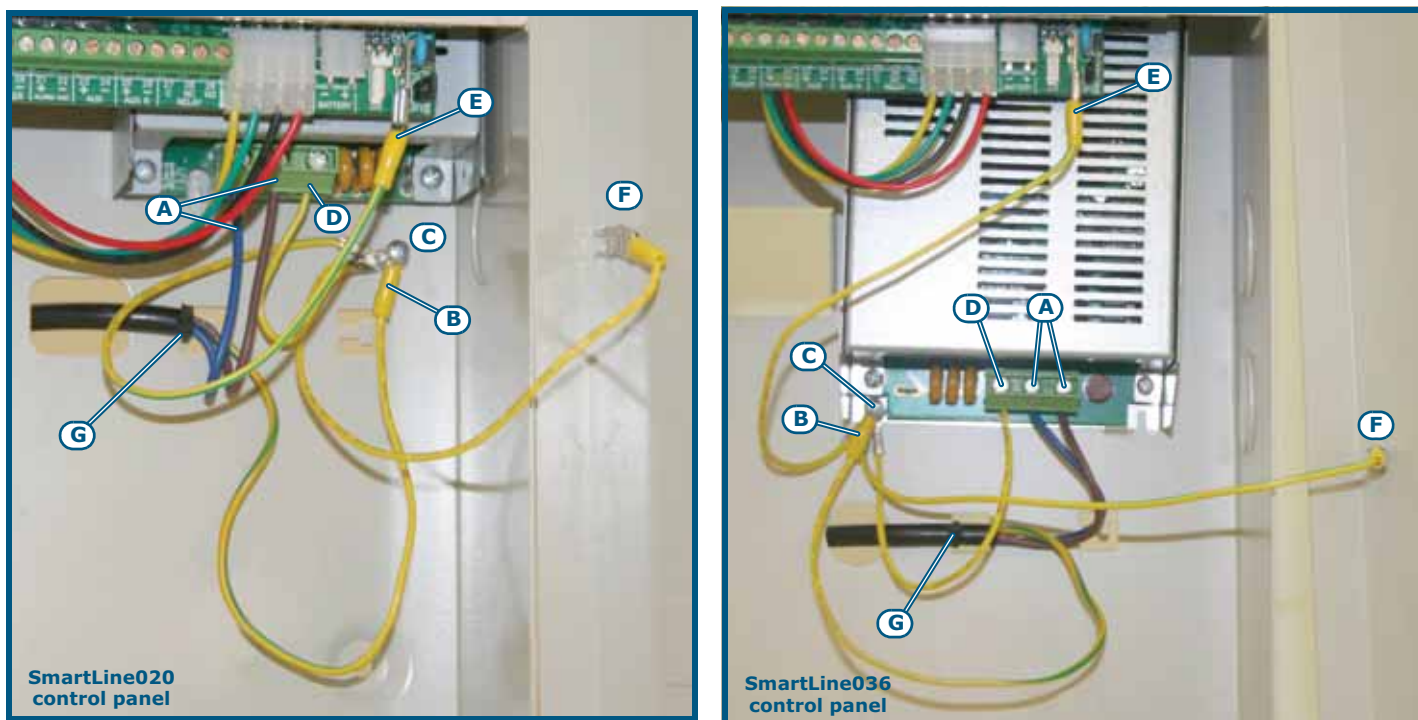

Figure 33 - Earthing system
1. Connect the mains power supply to the terminals on the power-supply module (*Figure 7 - Switching power supply, [A]* and *Figure 33 - Earthing system, [A]*).